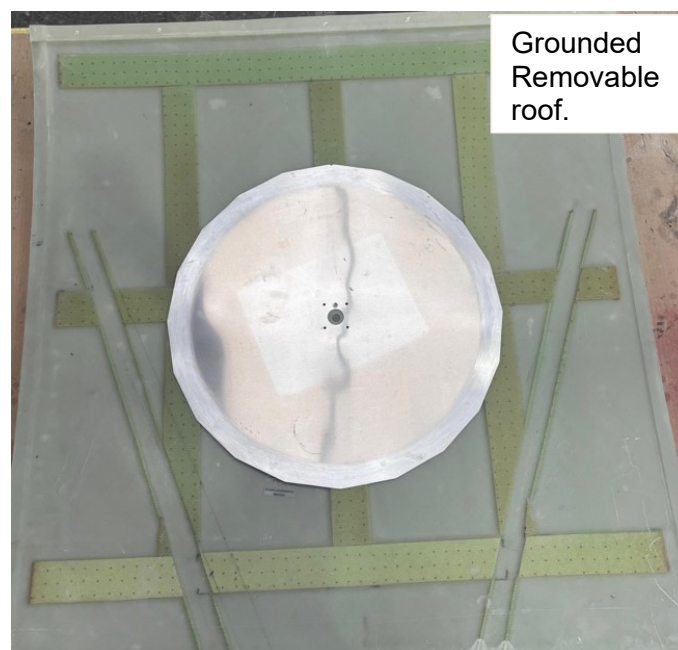

Figure 20: Bonded roof with VHF ground plate.
- Step 10: Mark on the removable roof to indicate where the Sika should be applied, as shown in the Figure 20.